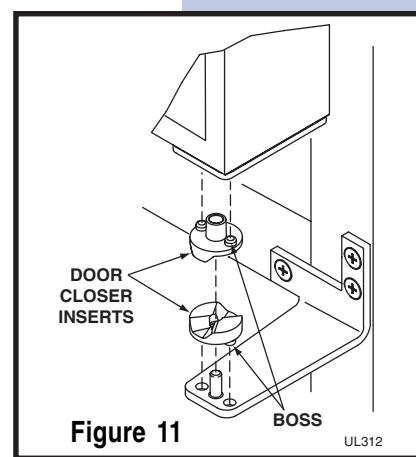

Figure 11
- 4 Remove the two door closer plastic inserts from the existing bottom hinge and install as shown on the new bottom hinge (see **Figure 11**).